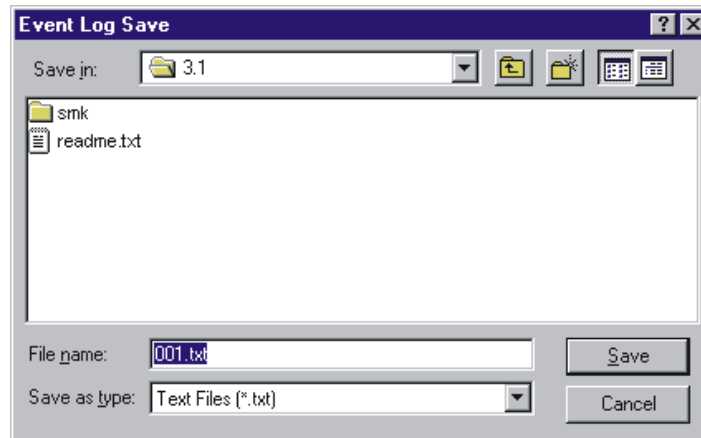

Figure 7-20. Event Log Save Window
1. From the HART XL Event History window, select **File>Save**. Figure 7-20 displays.